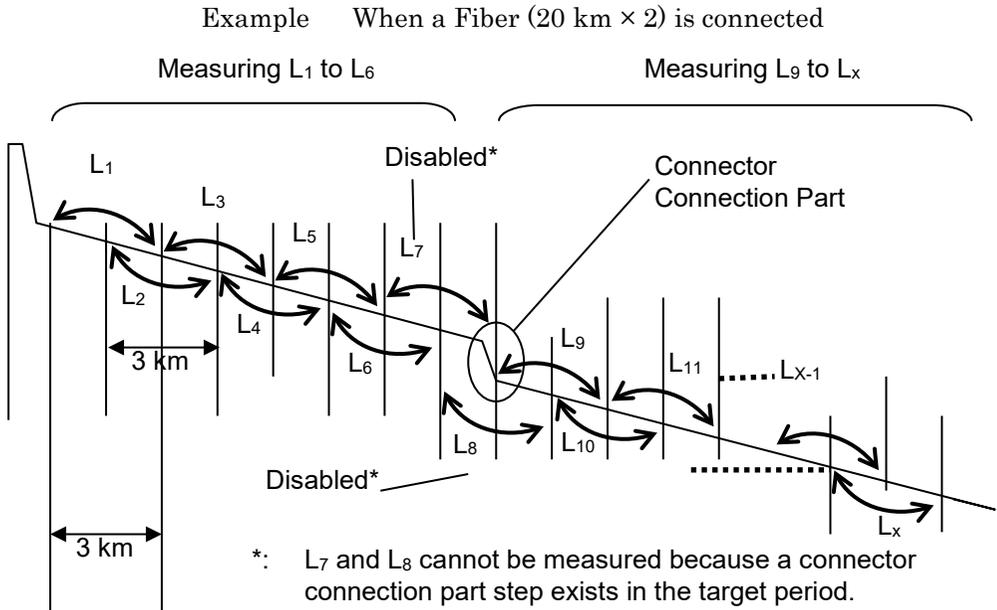

Figure 15.3.5-2 How to Measure Linearity
20. Move Marker ① to 1.5 km and Marker ② to 4.5 km by turning the rotary knob.
21. Record dB/km between ① and ②. This is  $L_2$  in Figure 15.3.5-2.